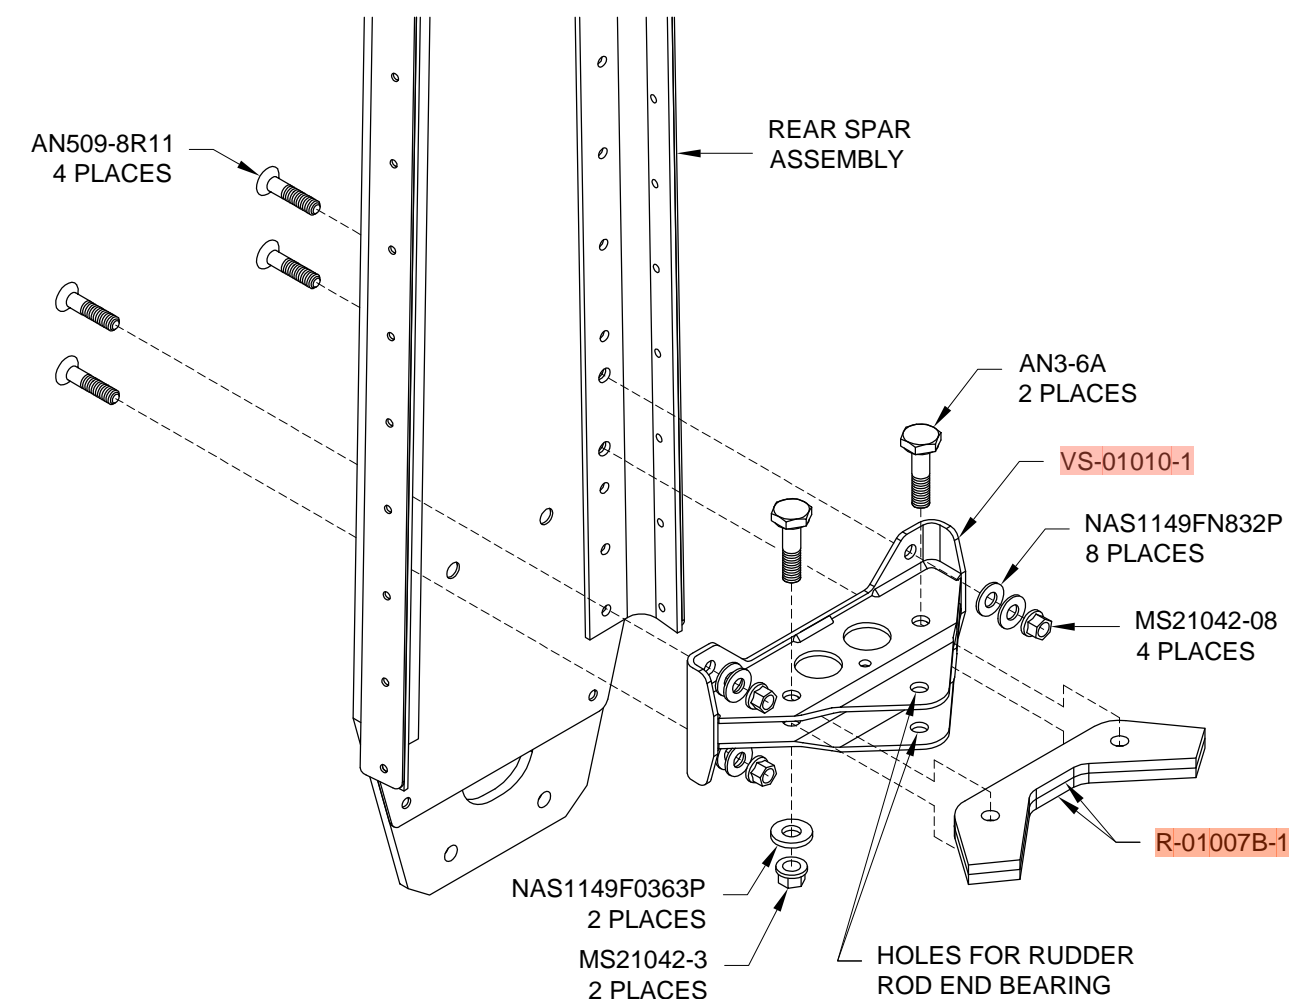

FIGURE 2: ATTACHING THE BOTTOM HINGE BRACKET AND RUDDER STOPS
Step 3: Heavily deburr (and straighten if necessary) the two **R-01007B-1** Rudder Stops, then bolt them in the **VS-01010-1** Bottom Rudder Hinge Bracket as shown in Figure 2.